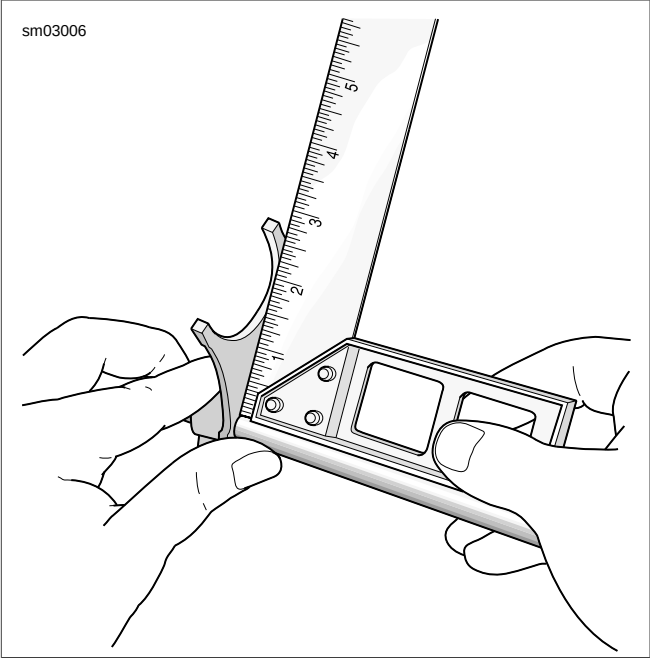

Figure 6-25. Checking Fork
7. See Figure 6-25. Using a small square, verify the shift forks are square. If shift fork does not rest directly on the square, then it is bent and must be replaced.